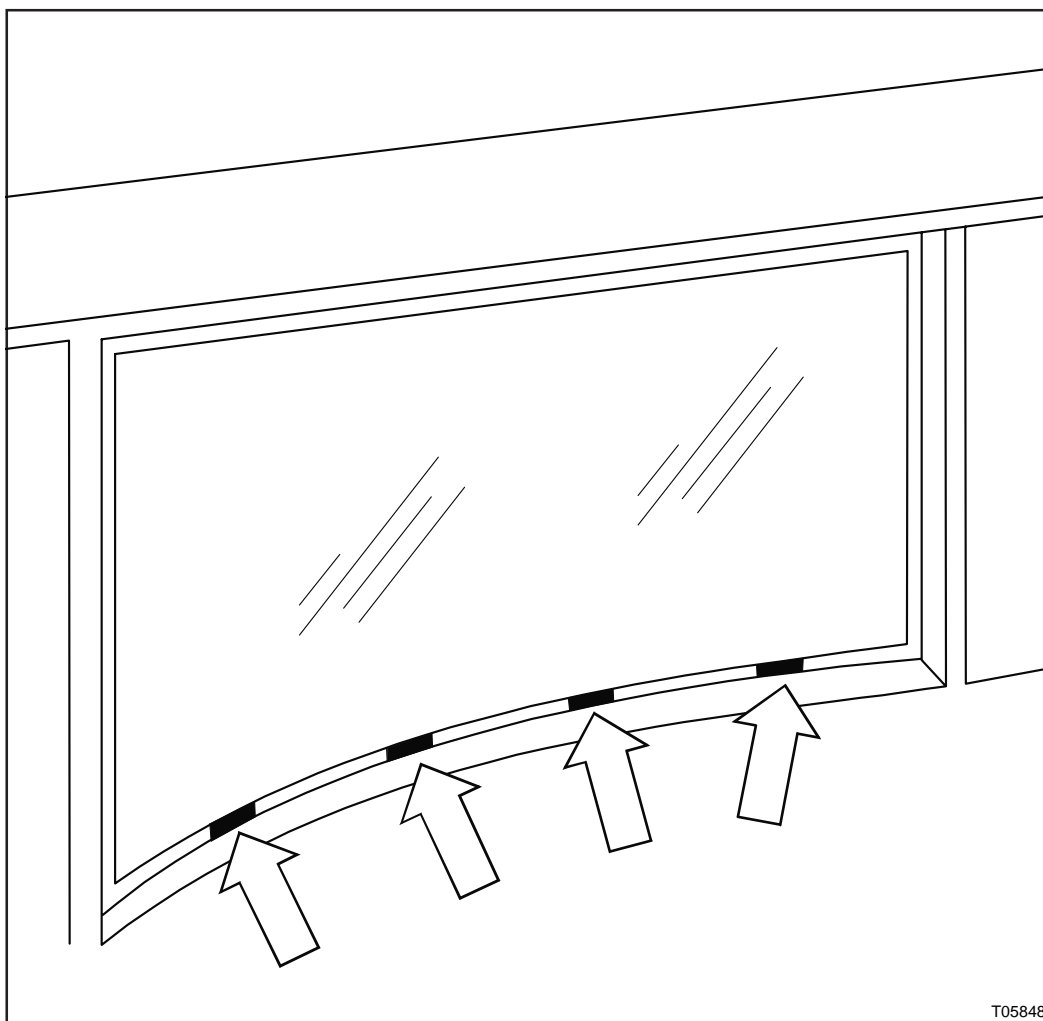

Figure 1 : Location of rubber spacers
3. Also with the aid of an assistant, raise the pane by the suction tools so that its upper edge butts the outside seal portion in the top window rail. Install four $1\frac{9}{16} \times \frac{5}{16} \times \frac{3}{16}$ inch (40x8x4,5mm) self-adhesive rubber spacers between the lower pane edge and the outside seal in the bottom window rail (see Figure 1). Make sure the spacers are evenly divided.